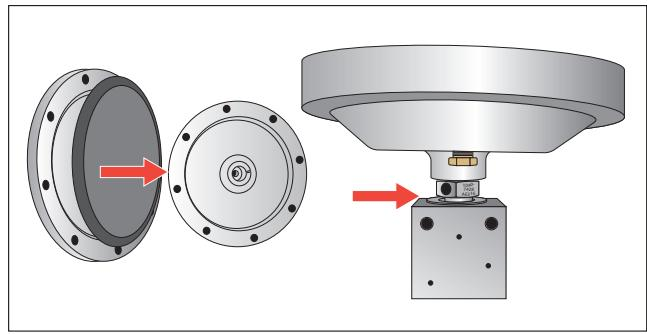

Figure 4. Diaphragm Placement
4. Unscrew the lower valve body from the top half. See Figure 4.